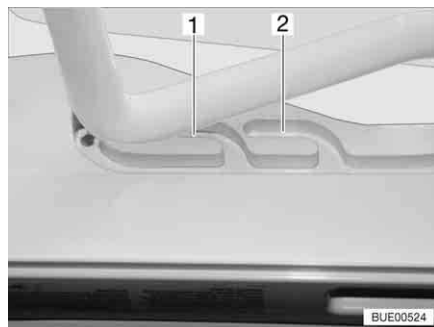

Fig. 19 Hinged skylight in ventilation position
- Push the bar slightly upwards and into the selected guide (Fig. 19,1 or 2).